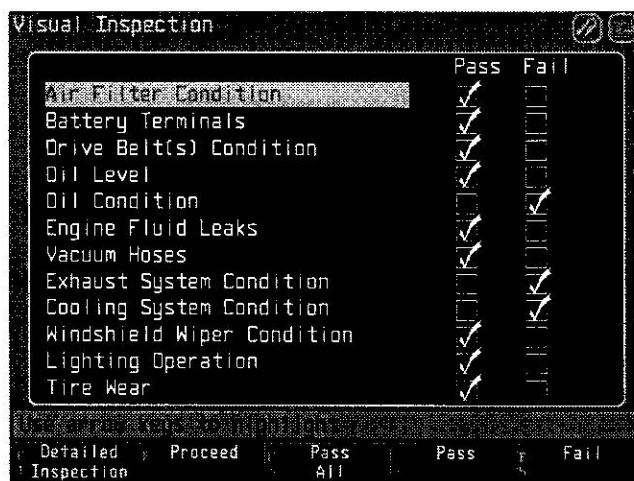

Figure 2-1
1. The "Visual Inspection" screen will appear (see Figure 2-1).